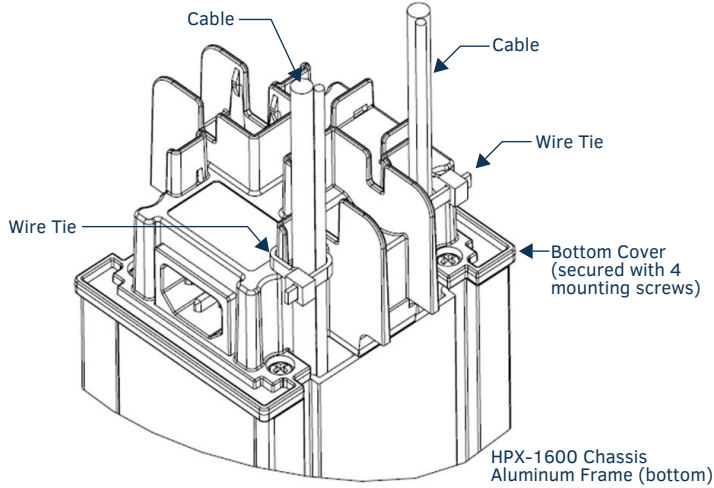

FIG. 5 BOTTOM COVER - INSTALLED WITH CABLES EXITING AND SECURED
2. After the bottom cover is secured using four screws, secure the cables to the corresponding tab near each opening using a small cable tie (FIG. 5).